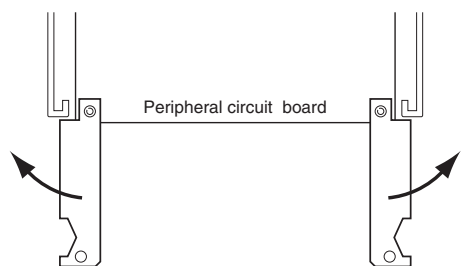

Figure 3.4.3 Dismounting Peripheral Circuit Board
(3) When dismantling the peripheral circuit board, set the jig into position as shown in Figure 3.4.3. Using this jig as a lever, push it toward the outside of the board evenly on the left and right sides and pull the peripheral circuit board out of the S5U1C63000H6.
(4) Mounting the front panel removed at the step (1) on the main case by pushing and turning two screws located at both side.